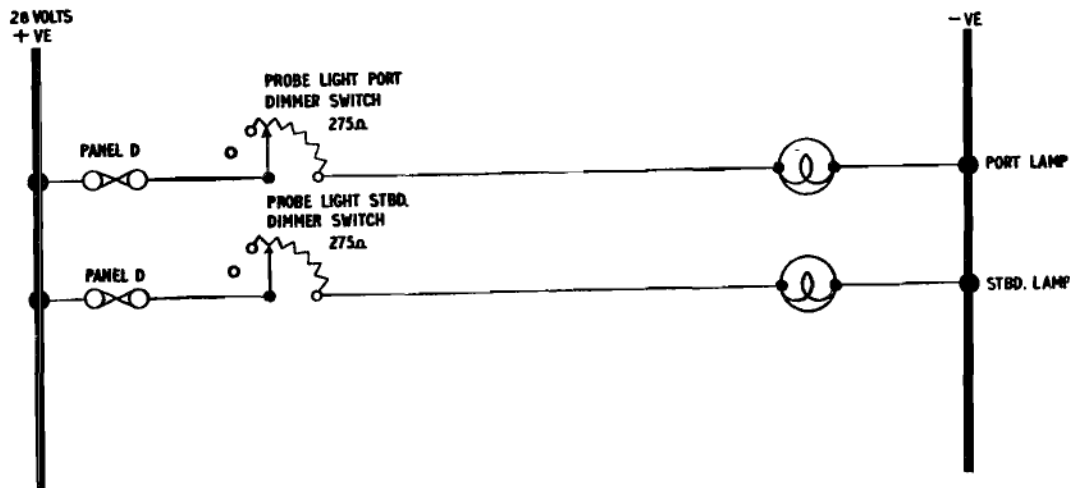

Fig. 5. Refuelling probe lighting
**Refuelling probe lighting (Mod. 2586) (fig. 5)**